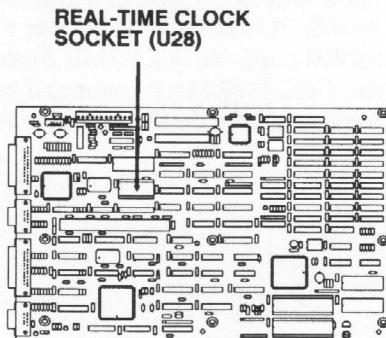

Figure 5. Real-time Clock Chip Socket Location
- If you have this option, and you are losing the date and time, make sure the clock chip is fully seated in the socket. Figure 5 shows the location of the clock chip socket. Also be sure you have CONFIG.SYS and CLOCK.SYS files in the root directory of the disk you use to start the system. The CONFIG.SYS also must contain the line DEVICE = CLOCK.SYS.